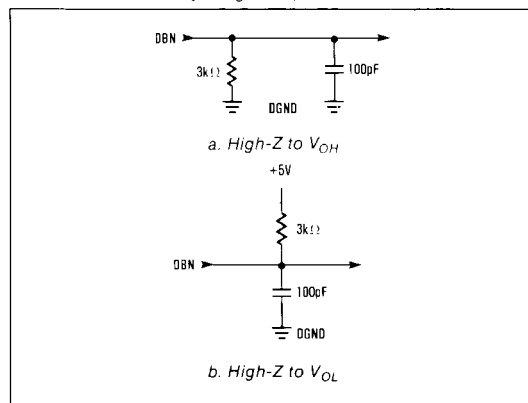

Figure 1. Load Circuits for Data Access Time Test
**Note 3:** Measured with load circuits of Figure 1 and defined as the time required for an output to cross 0.8V or 2.4V.